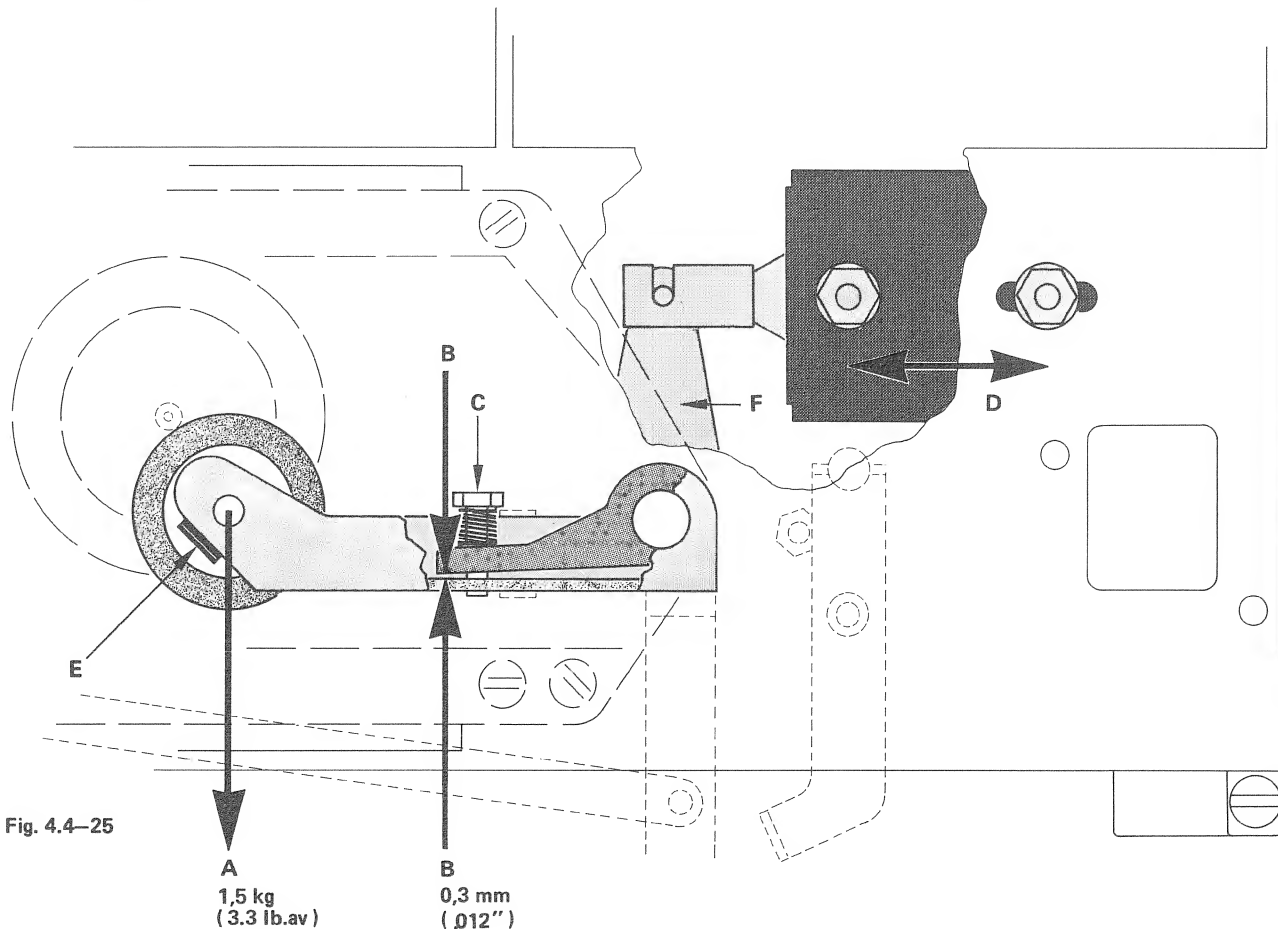

Fig. 4.4–25
The pressure lever is actuated electromechanically. Pressure is set by the variable spring force (fig. 4.4 –25).
- Slide pressure solenoid to the right gap B (fig. 4.4–25) is .3 mm (.012 ")
- Hold pressure roller axis at groove from above (fig. 4.4 –25) and remove bolt fastening E to the side.
After exchanging the pressure lever, it is necessary to readjust it with respect to lever F (fig. 4.4 –25). When the lever is stopped (solenoid core fully out), the distance between capstan axis and pressure roller shall be 10 mm (.4 ").